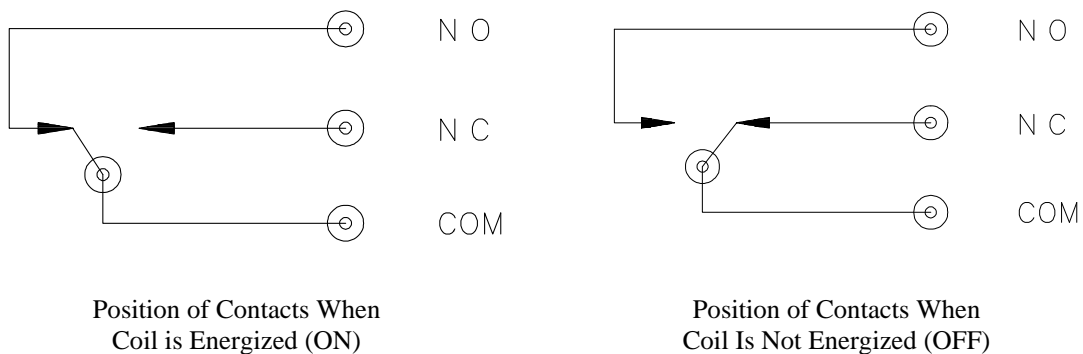

FIGURE 3. Switch Operation
The toggle switch has three positions; "ON" and "OFF" for manual override, and "AUTO" for datalogger control. In the "ON" position, the common (COM) and normally open (NO) contacts are closed (see Figure 3). In the "AUTO" position, the state of the relays are controlled by the datalogger control ports.
Figure 3 shows how the switches in each channel operate. NO means “normally open”, NC means “normally closed”. COM means “common” to NO and NC.